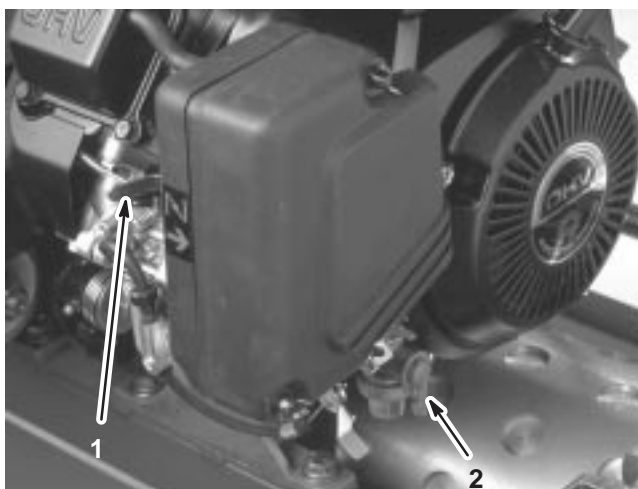

Figure 23
Choke Lever (Fig. 23)
Fuel Shut-off Valve (Fig. 23)
2. Open the fuel shut-off valve on the engine (Fig. 23).
5. Move the choke lever (Fig. 23) to the half-open position when starting a cold engine. The choke may not be required when starting a warm engine.